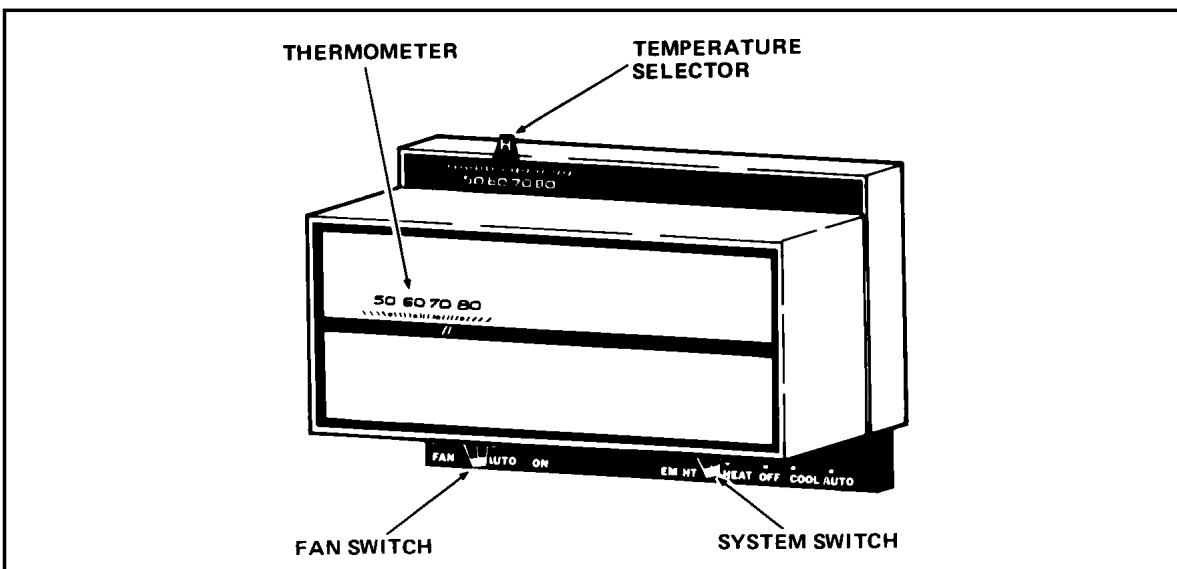

Figure 1. Typical Thermostat
1. Set the thermostat system switch to COOL and the thermostat fan switch to AUTO. (See Figure 1)
1. Set the thermostat system switch to HEAT and the thermostat fan switch to AUTO. (See Figure 1)
1. Set the thermostat system switch to AUTO and the thermostat fan switch to AUTO. (See Figure 1)
Set the thermostat system switch to OFF and the thermostat fan switch to AUTO. (See Figure 1) The system will not operate, regardless of the thermostat temperature selector(s) setting.
Set the thermostat fan switch to ON (See Figure 1). The indoor blower will start and will run continually until the fan switch is reset to AUTO.